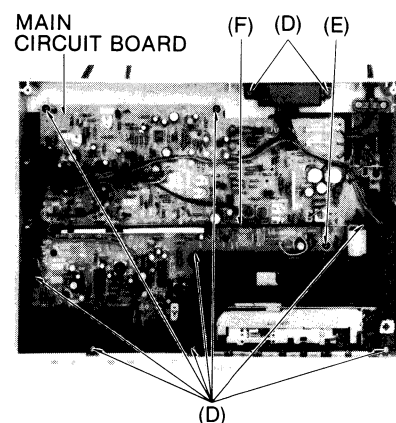

Fig. 3
A Head position adjustment Condition: • Playback and pause mode	(The head adjusting plate is provided to adjust the tape touch of the head in cue or review mode.) 1 Press the playback button and pause button 2 Measure the space between the pressure roller and the capstan. Standard value: $0.5 \pm 0.3\text{ mm}$ 3 If the measured value is not within the standard value, untighten screw (A), and slide the head adjusting plate in the direction of arrow (B) for adjustment  Fig. 3